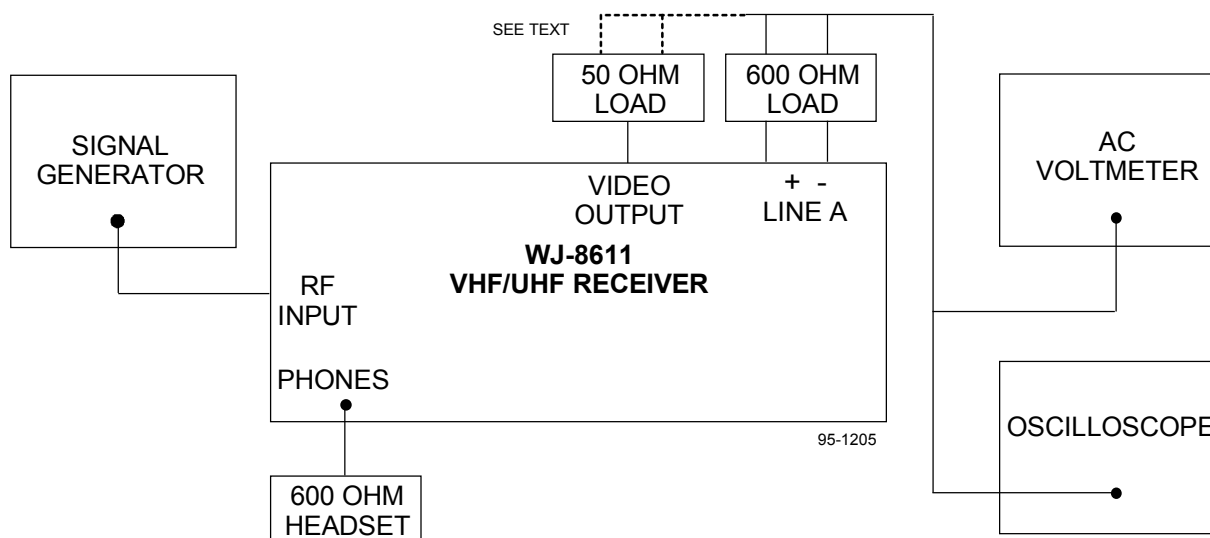

Figure 6-4. Sensitivity Performance Test, Equipment Connection
1. Connect the test equipment as illustrated in **Figure 6-4**.